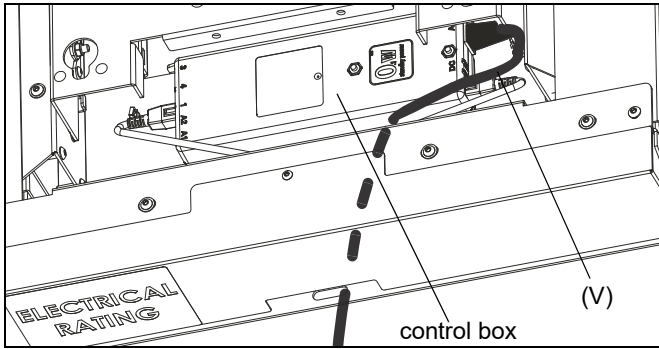

Figure 27
9. Connect power cable (V) to control box and power source. (See Figure 27)